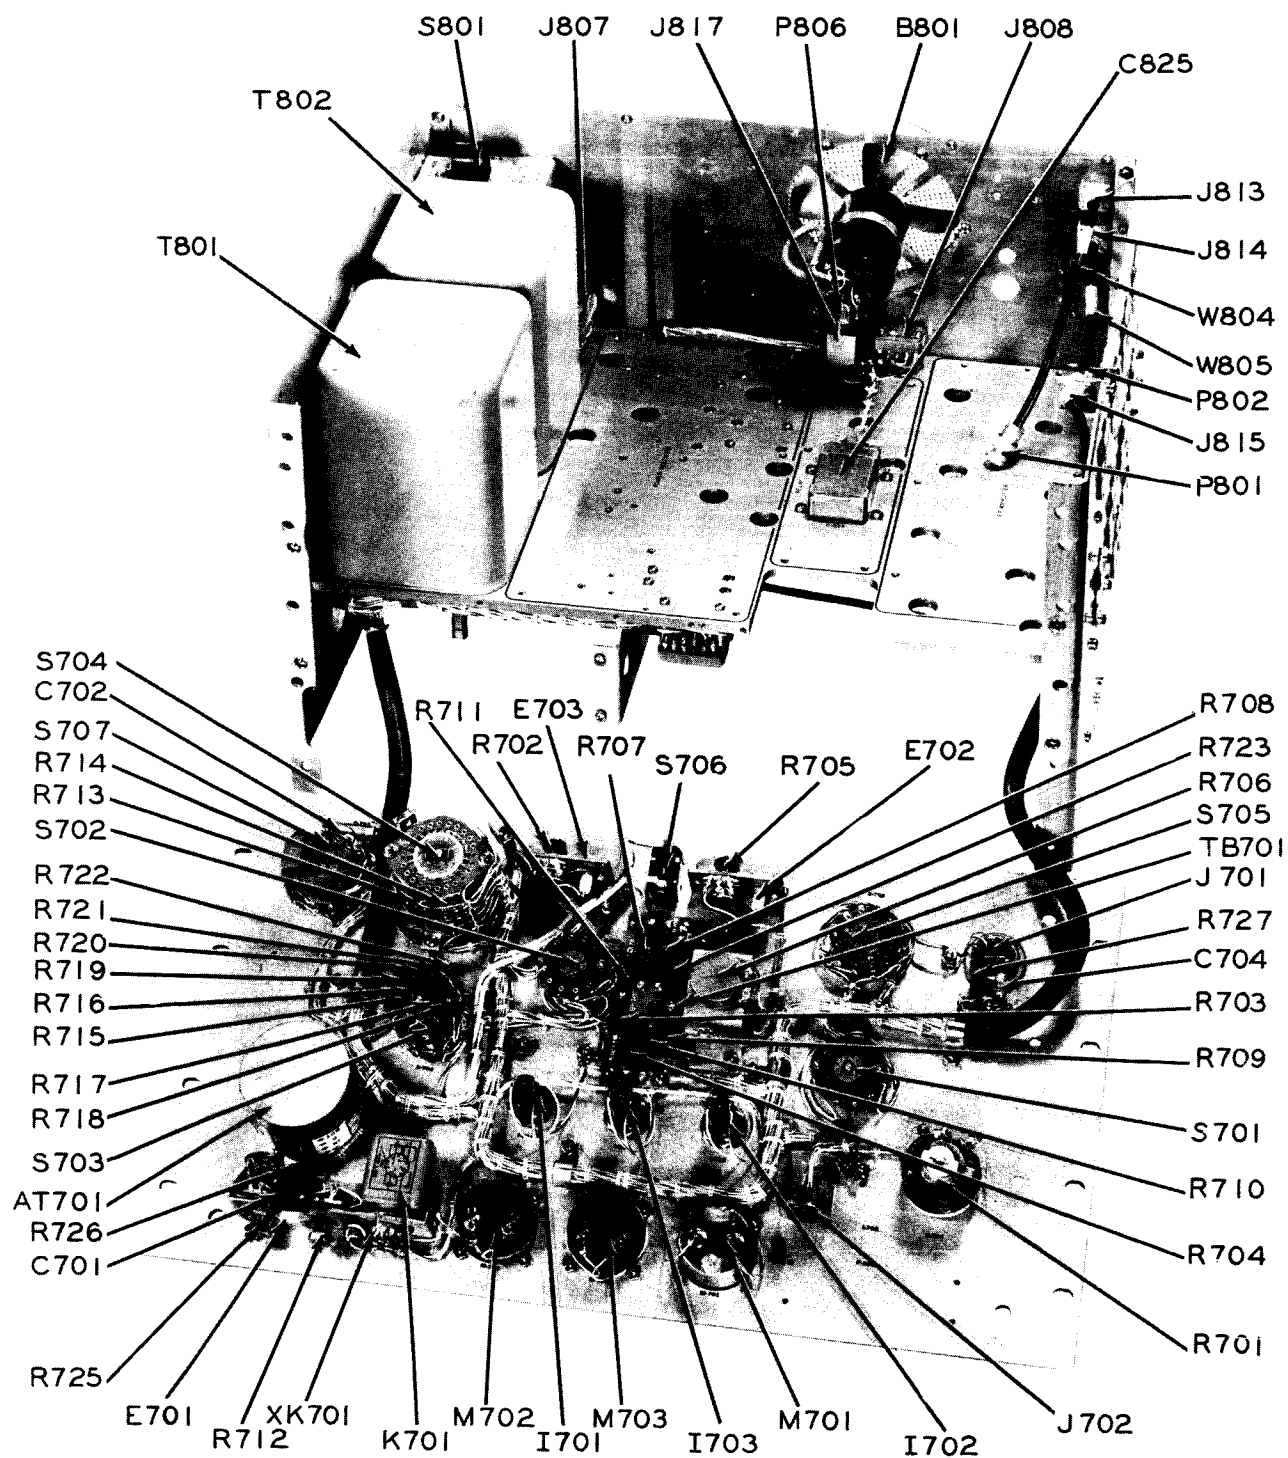

Figure 103. Main frame, top, and front panel, rear.
- g. Using the dc probe, connect a VTVM (TS-505/U) between E701 (fig. 103) ground.
- e. Short test point E701 (fig. 103) to ground.